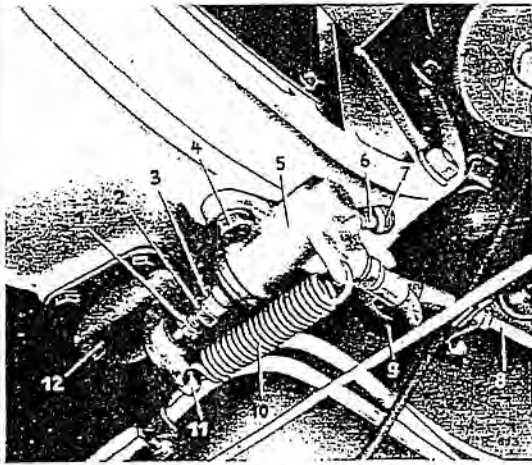

Fig. 29-4/5
c) The shorter push rod (5) must also be installed in the 3rd version extraction cylinder (Fig. 29-4/7).